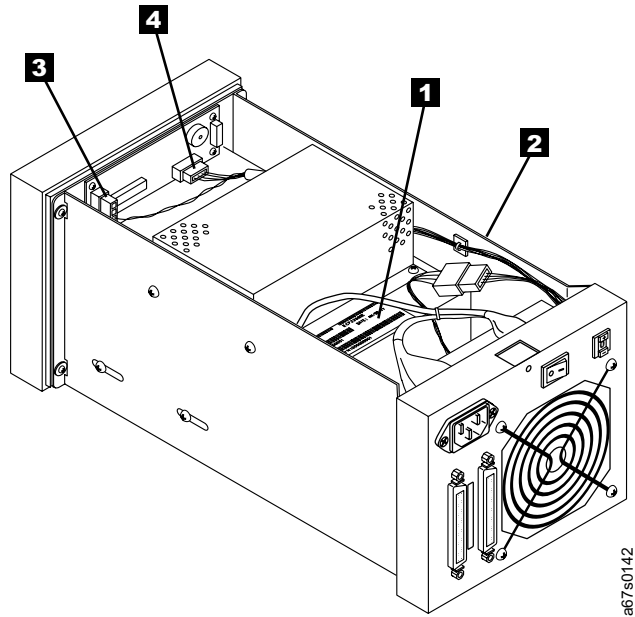

Figure 23. Removing the internal drive from the 3580 Tape Drive
2. Remove the internal drive (see **1** in Figure 23) from the chassis **2** by performing the following steps: